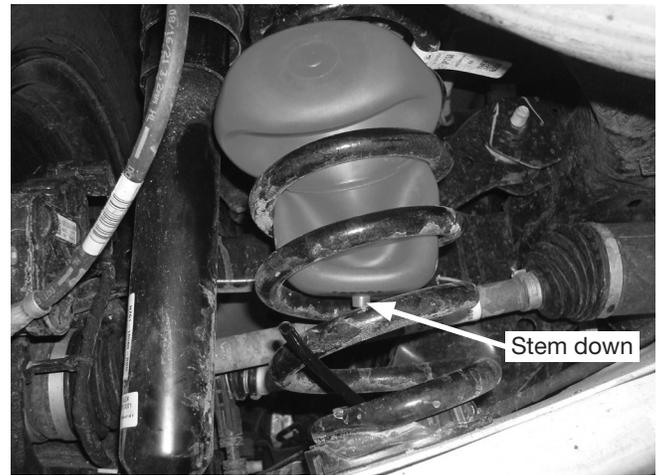

Fig. 4
3. Insert the flattened end of the air spring (A) into the top opening of the coil spring (with the stem at the bottom) (fig. 4). Push the air spring down into the coil spring by hand or with a blunt instrument such as a spoon-type tire iron.